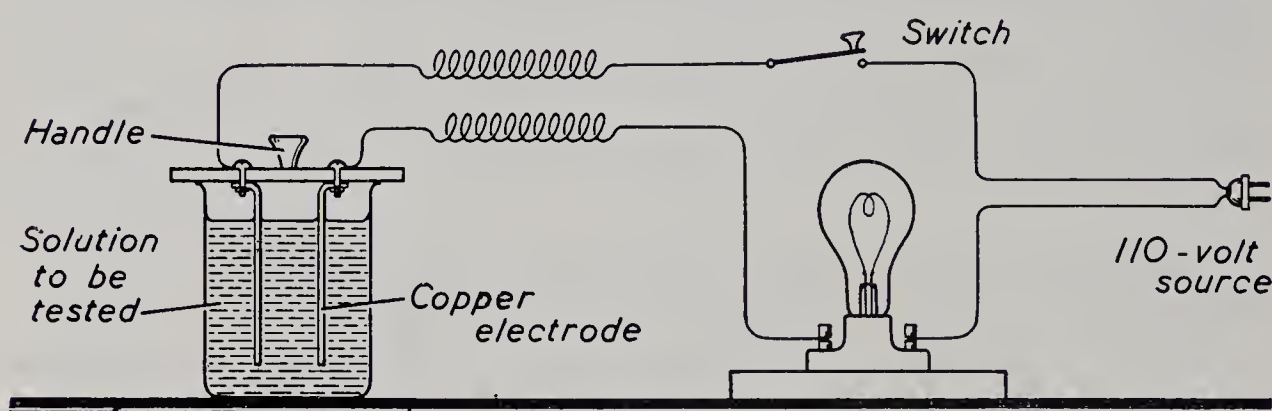

Fig. 49. Testing the conductivity of a solution.
1. Nearly fill a clean 300 ml. beaker with distilled water. Submerge two copper electrodes in the water so that they do not touch, and connect them in series (Fig. 49) with a lamp and an open switch. Connect to a 110-volt source, and close the switch.